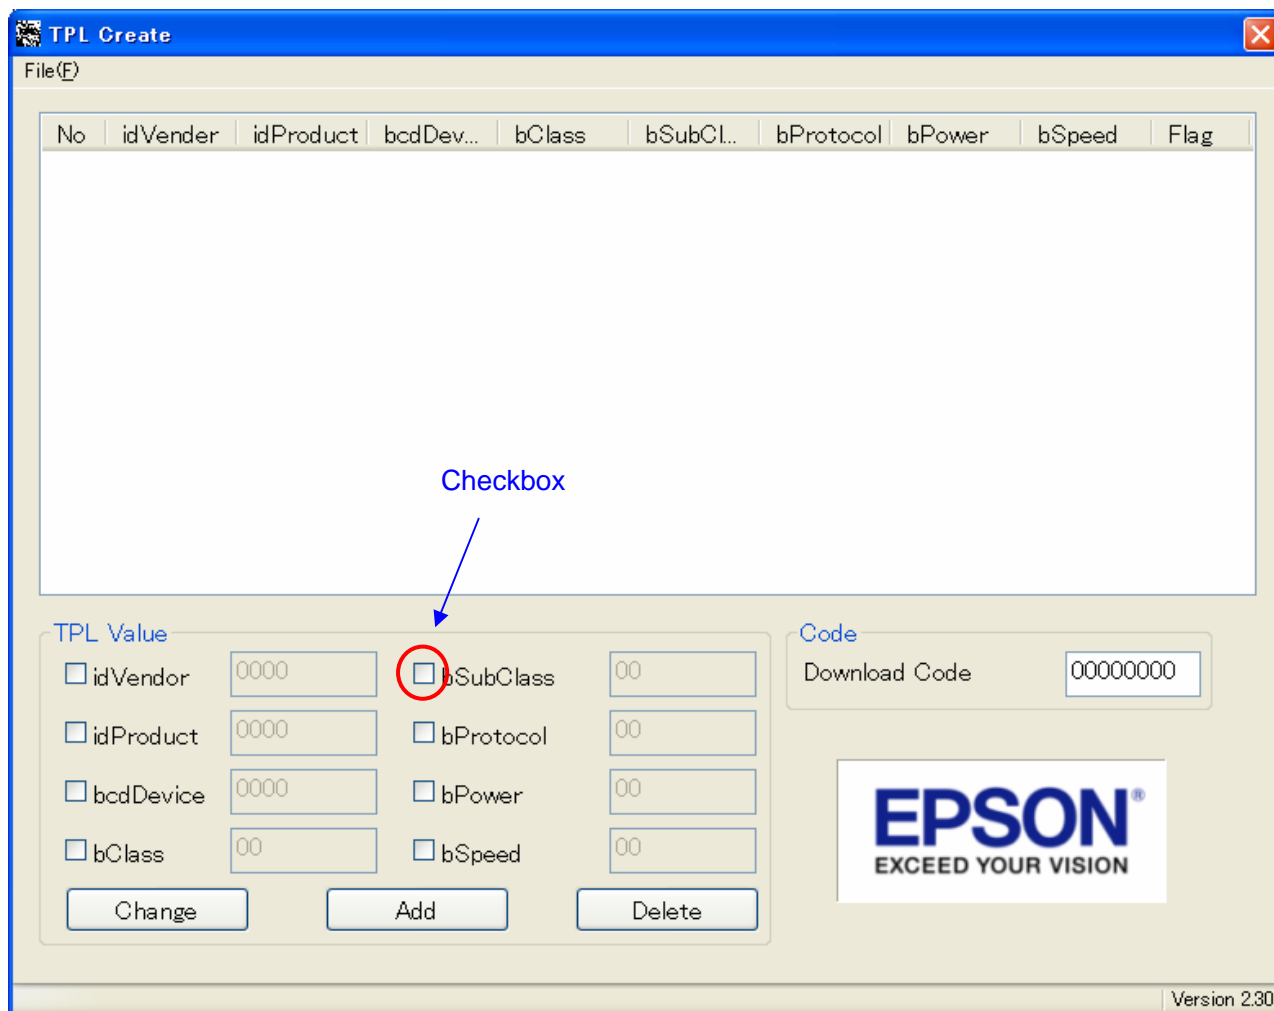

Figure 4.5 Main screen
Step 2: Select **File** → **New** to set **TPL Value** and **Code**, as shown in Figure 4.5.